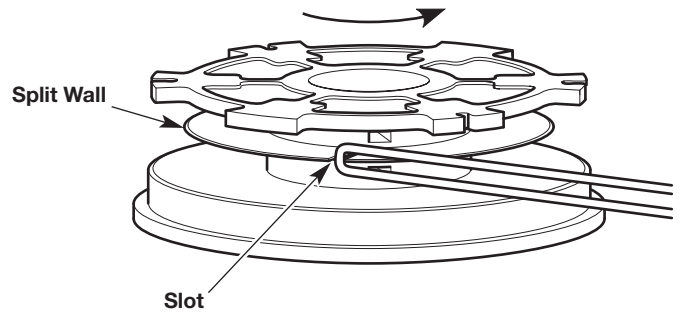

Fig. 21
2. Insert the loop into the slot in the split wall (Fig. 21). Wind the line tightly in the direction shown on the bottom of the inner reel until about 6 inches (150 mm) of line remains. Keep the top half of the line above the split wall and the bottom half of the line below the split wall.